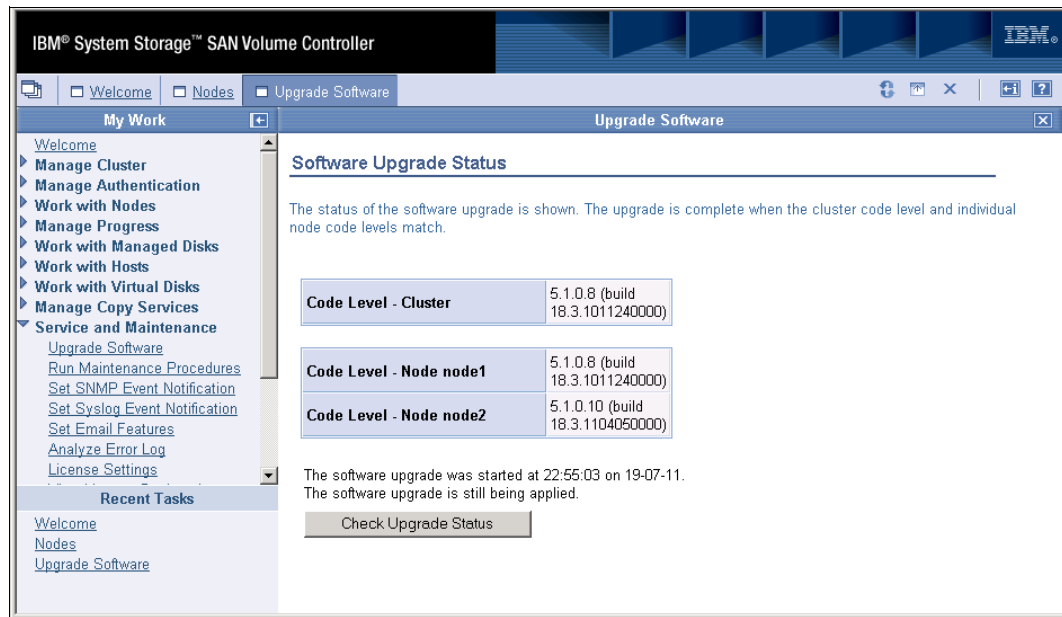

Figure 16-2 SAN Volume Controller Code upgrade status monitor by using the GUI
6. In the Software Upgrade Status window (see Figure 16-2 on page 558), click **Check Upgrade Status** to monitor the upgrade progress.